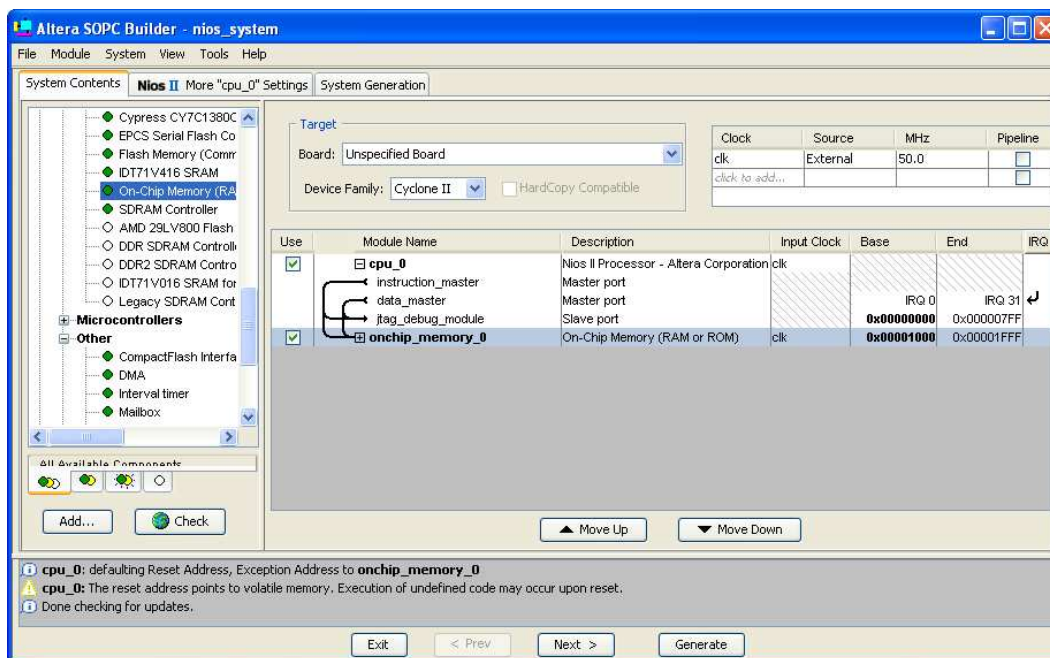

Figure 9. The on-chip memory is included.
- Click **Finish**, which returns to the System Contents tab as indicated in Figure 9